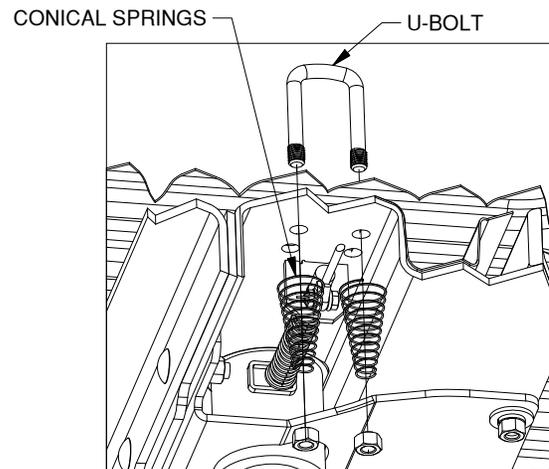

Figure I3: Cutaway view of bed and center section.
- 3. Add springs.** Place a conical spring over each leg of the U-bolts and secure with a 1/2" lock nut, see Figure I3. Tighten the lock nut until the nut is flush with the end of the U-bolt.